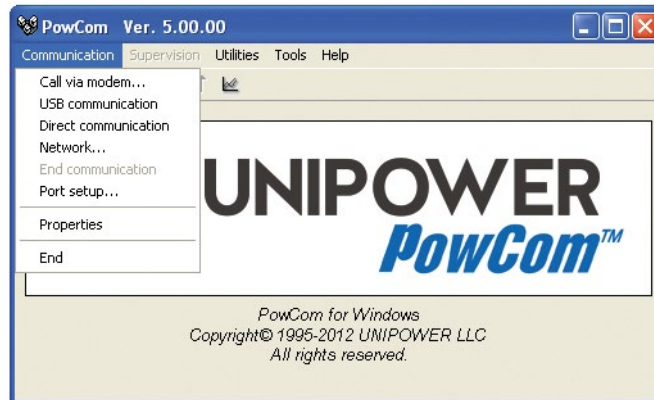

Figure 3-5 Communications menu
6. Choose “Communications” from the PowCom™ menu, and select “Port Setup” (Figure 3-5).